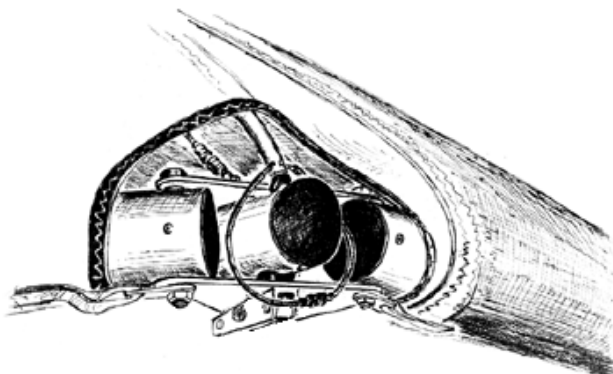

Fig. 9
2.1.11. Position the sail mount tang of the nose part of the sail under the nose plate over the bolt and secure the assembly with the self-locking nut (Fig. 9). Screw the self-locking nut full tight and then unscrew it 180 deg. back. Make sure that the sail mount tang moves around the bolt freely. Leaving a little slack in the joint will provide the leading edge for necessary movement in the bottom nose plate slot.